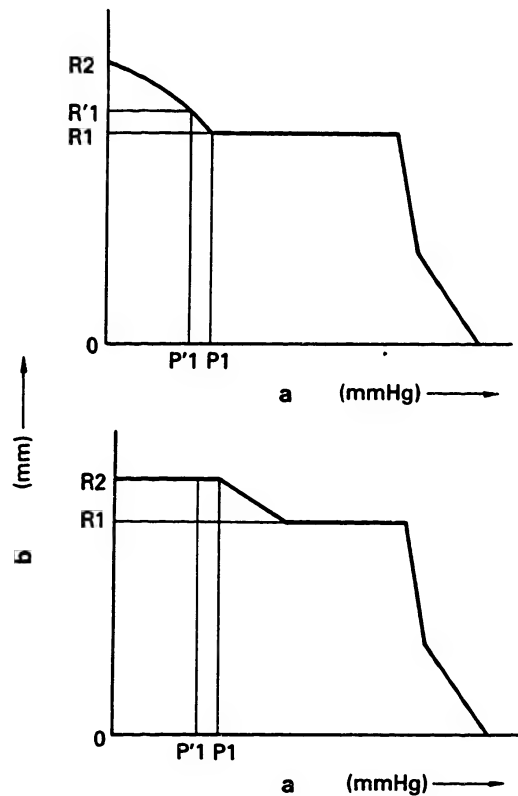

Fig. 84
-2. Maintain the pump speed indicated in the Service Data (usually 1,000 or 1,100 rpm) and reduce the pressure of the pneumatic governor's negative pressure chamber to P'1 mmAq. (Fig. 84)
11. After adjusting the aneroid compensator, measure the fuel injection quantity when the control rack is positioned at R2 mm as shown in Fig. 84, when the aneroid compensator is not operating. If the fuel injection quantity is not as specified, readjust the aneroid compensator.
5. Maintain the pump speed specified in the Service Data (usually 1,000 or 1,100 rpm) and reduce the pneumatic governor's negative pressure chamber pressure to P'1 mmAg (see Fig. 84).